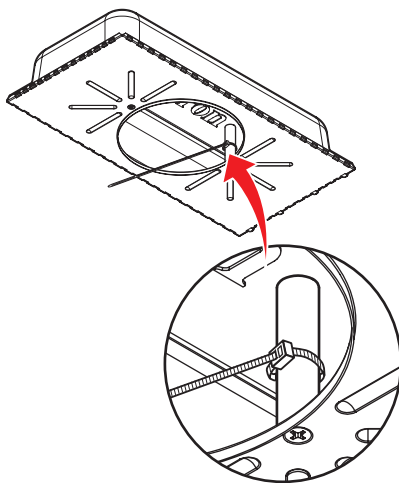
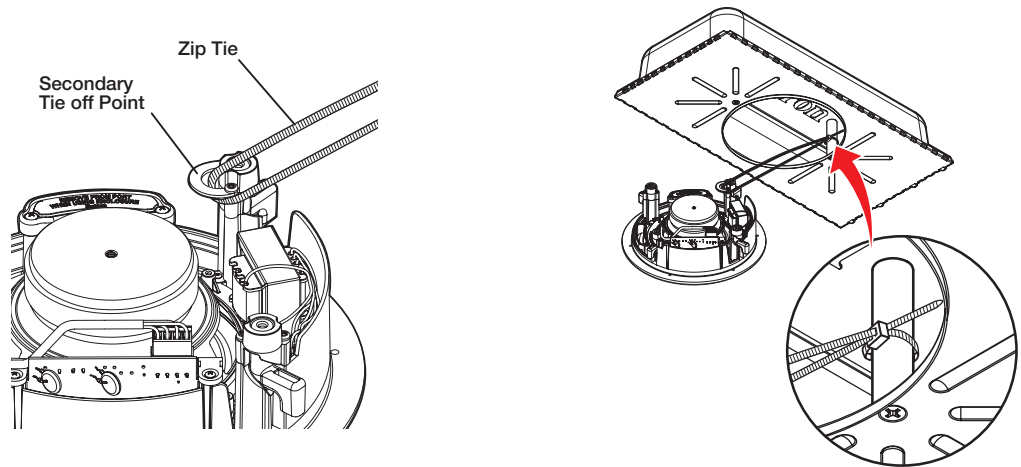

Figure 44. Closed Back Secondary Support Line for the CS 26T Plus
Figure 45. Attaching the Secondary Support Line to the CS 26T Plus
8. In the closed back configuration, use the zip tie protruding from the underside of the enclosure (see figure 44) to attach to the secondary tie off point of the CS 26T Plus speaker (see figure 45 on the next page).